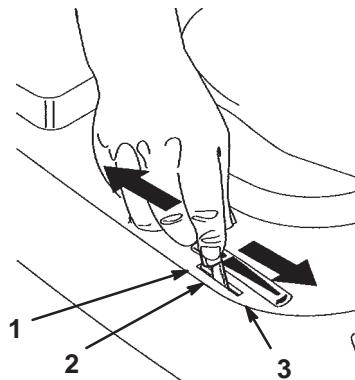

Figure 7
4. Shift the throttle lever to Choke (Fig. 7).
- After the engine starts, slowly shift the throttle lever to Fast (Fig. 7). If the engine stalls or hesitates, shift the throttle lever back to Choke for a few seconds and then shift the throttle lever to Fast. Repeat this step as required.
- Shift the throttle lever to Slow (Fig. 7).